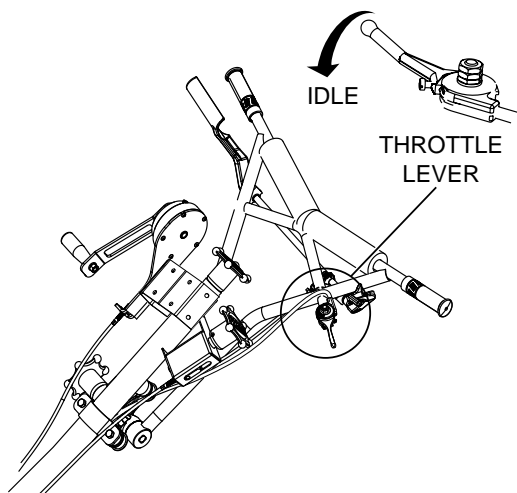

Figure 46. Throttle Lever (Idle)
1. Move the throttle lever to the (Figure 46) "IDLE" position and run the engine for three minutes at low speed.